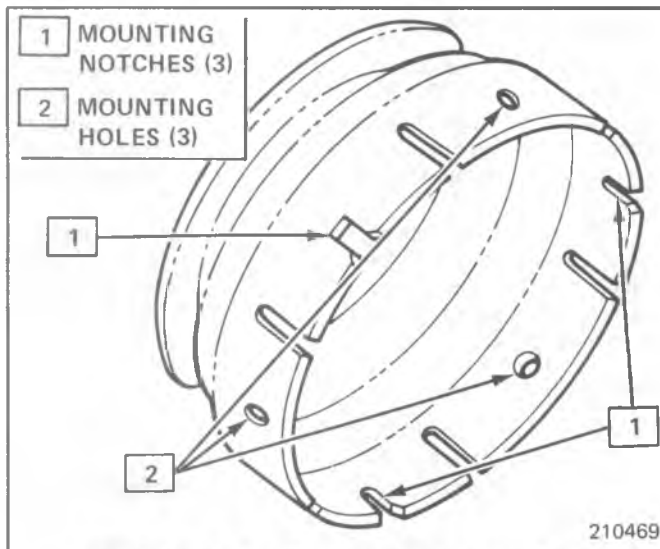

Fig. 1C1-24 Pulley Rim Mounting Location Detail
1. Loosen the compressor drive belt and rotate the compressor pulley as required to locate one (1) screw and lock washer mounted through a "mounting hole" of the Pulley Rim, Figure 1C1-24, rather than a "mounting notch" screw location. Do not remove the drive belt unless necessary. For identification purposes, washers locked over the edge of the Pulley Rim at the "mounting hole" locations will not usually dimple down in the center like the indentation of the lockover at a "mounting notch" screw location.
2. Remove the three (3) mounting screws and lockwashers at the pulley rim "mounting hole" locations. (The pulley rim "mounting holes" are located 120° apart radially around the rim or every other mounting screw location.) Do not remove the screws in the "mounting notches."
4. Assemble the Inertia Ring onto the Pulley Rim, being careful to align the inertia ring mounting holes with the mounting holes in the pulley rim. If the Inertia Ring must be rotated on the Pulley Rim for centering the mounting holes and cannot be shifted by hand, use a drift punch or blunt tool and a hammer to carefully tap the Inertia Ring at a clearance notch, Figure 1C1-25, to move the ring into position.